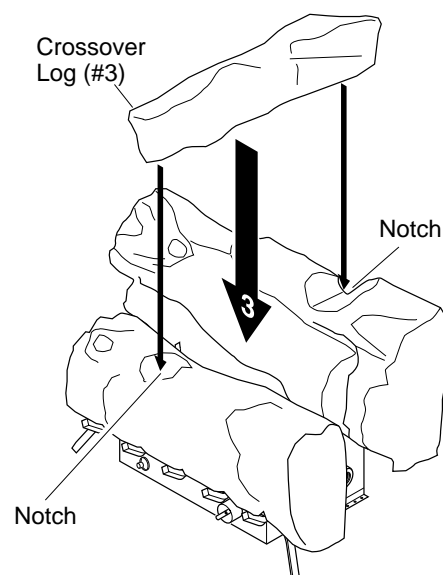

Figure 29 - Installing Crossover Log
3. Place the crossover log (#3) on top of the back log and front log. Make sure the crossover log is seated into the notches on top of the back and front logs (see Figure 29).